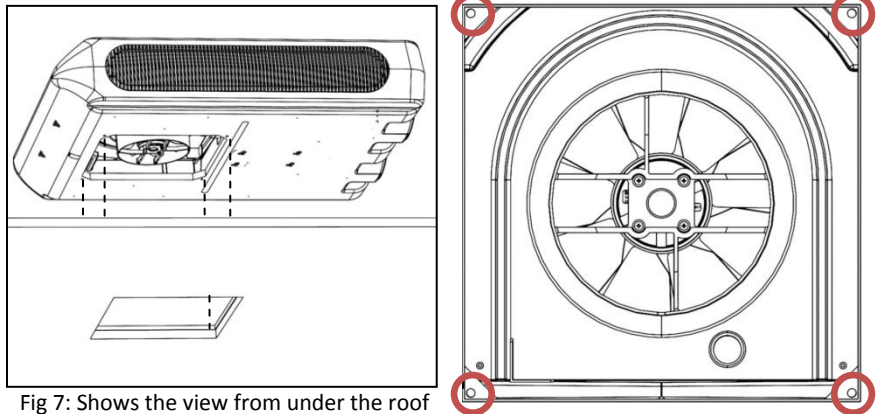

Fig 7: Shows the view from under the roof. Position the IBIS so the 4 mounting holes (circled) line up with the corners
- Four M8 mounting holes on the chassis underneath the air conditioner will line up with the corners of the square roof hole (Fig 7).